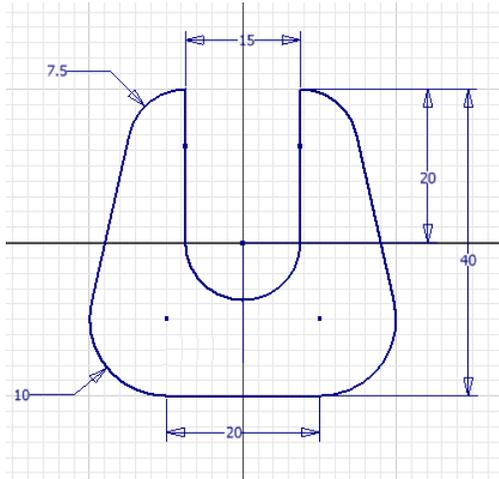

Figure 3-61 Dimensioned sketch for Tutorial 3
- Invoke the Sketching environment and add the required dimensions and constraints to the outer loop, refer to Figure 3-61.
With this, all dimensions have been applied to the sketch (see Figure 3-61), except the horizontal dimension between the center points of arcs 4 and 6 or arcs 8 and 6. The need of these dimensions depends on the constraints and dimensions assumed while drawing the sketch. If the sketch gets over-constrained, the **Autodesk Inventor Professional** message box is displayed. Choose **Cancel** from the message box. In this case, the dimension has already been assumed.